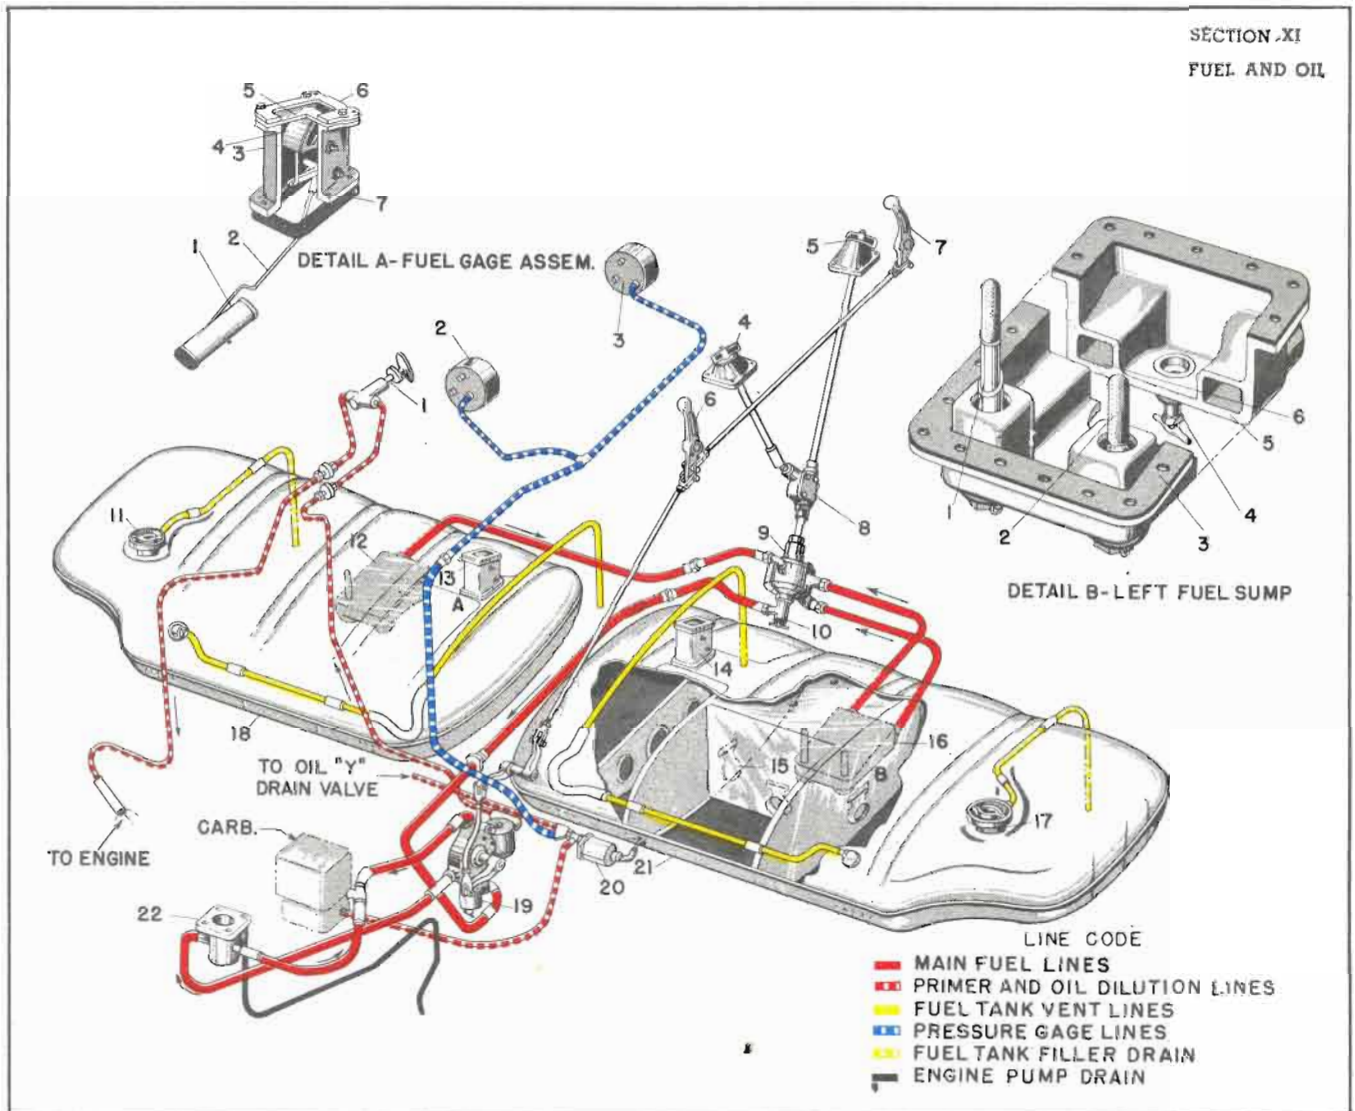

Figure 159 — Fuel System Diagram
a. GENERAL.—(See figures 159 and 160.)—The fuel system consists of two removable tanks,* housed within the center section structure, a type F-10 engine-driven fuel pump mounted on the engine accessory housing, a fuel unit (combination hand pump and strainer) on the forward side of the fire wall with a fuel cock at the bottom of the fuel unit, and a fuel selector valve. Two float-type fuel quantity gages, a fuel pressure signal, a carburetor mixture temperature indicator, engine priming and oil dilution systems, and the necessary piping, fittings, controls, etc., are provided. Fuel is inducted into the engine from either the left or right tank by means of the fuel tank selector valve, through the combination fuel unit to the engine-driven pump and into the carburetor. In the event that the engine-driven fuel pump fails, fuel is supplied to the carburetor by the fuel unit, with pressure being applied by the hand pump. Fuel system lines are identified by a red band.